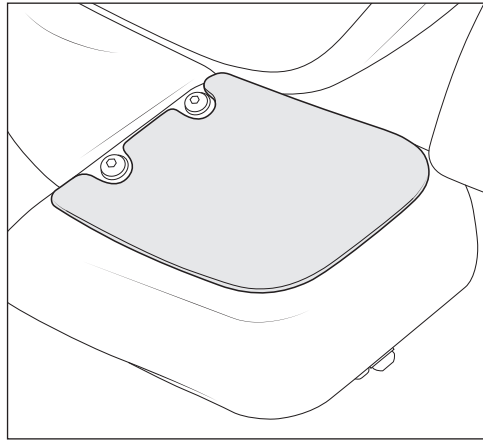

Figure 25
4. Make sure top surface of bumper is clean and dry and install provided adhesive-backed foam step pads as shown (if desired). Be sure to hold in place with strong pressure for at least 30 seconds (fig. 25).